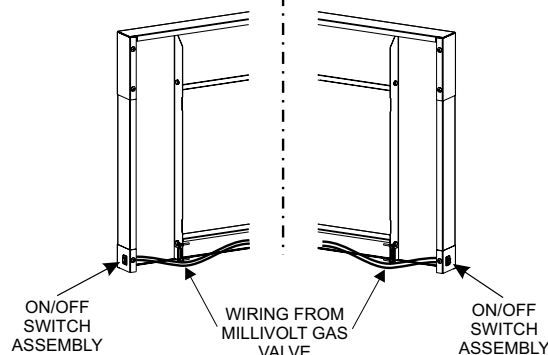
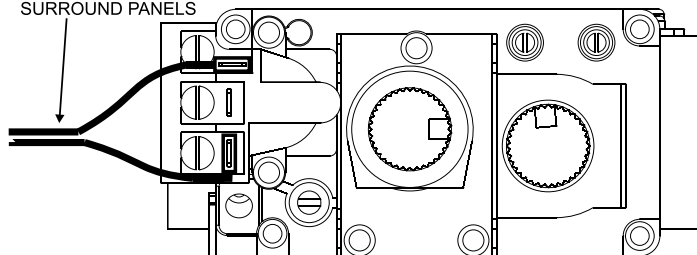

Figure 13
Figure 14
- 2a. **Millivolt Units:** Attach the flag terminal ends to the "TH/TP" and "TH" terminals on the front terminal block of the gas valve. **See Figure 14.**
- 2b. **IP Units:** Disconnect the (2) black wires from the green and white wire connectors. Connect alternate On/Off switch wires to the green and white wires. **Note:** This bypasses the On/Off switch located on the front of the control module tray.
3. Run the low voltage alternate switch wires over to the right or left surround panel. Then secure the wires with wire clips provided. **See Figure 13.**
4. Remove the switch knockout on the side surround panel, then install the ON/OFF switch. **See Figure 13.**